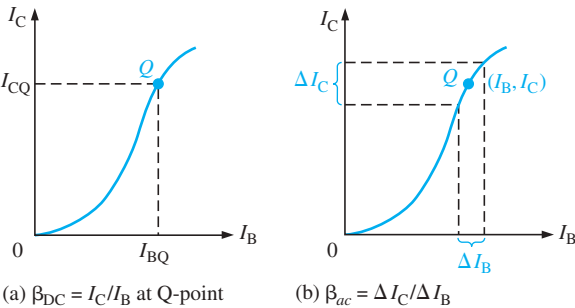

FIGURE 6–7
A linear amplifier provides amplification of a signal without any distortion so that the output signal is an exact amplified replica of the input signal. A voltage-divider biased transistor with a sinusoidal ac source capacitively coupled to the base through C_1 and a load capacitively coupled to the collector through C_2 is shown in Figure 6–2. The coupling capacitors block dc and thus prevent the internal source resistance, R_s , and the load resistance, R_L , from changing the dc bias voltages at the base and collector. The capacitors ideally appear as shorts to the signal voltage. The sinusoidal source voltage causes the base voltage to vary sinusoidally above and below its dc bias level, V_{BQ} . The resulting variation in base current produces a larger variation in collector current because of the current gain of the transistor.
◀ FIGURE 6–2
As the sinusoidal collector current increases, the collector voltage decreases. The collector current varies above and below its Q-point value, I_{CQ} , in phase with the base current. The sinusoidal collector-to-emitter voltage varies above and below its Q-point value, V_{CEQ} , 180° out of phase with the base voltage, as illustrated in Figure 6–2. A transistor always produces a **phase inversion** between the base voltage and the collector voltage.
A Graphical Picture The operation just described can be illustrated graphically on the ac load line, as shown in Figure 6–3. The ac signal varies along the ac load line, which is different from the dc load line because the capacitors are seen ideally as a short to the ac signal but an open to the dc bias. The sinusoidal voltage at the base produces a base current that varies above and below the Q-point on the ac load line, as shown by the arrows.
◀ FIGURE 6–3
Lines projected from the peaks of the base current, across to the I_C axis, and down to the V_{CE} axis, indicate the peak-to-peak variations of the collector current and collector-to-emitter voltage, as shown. The ac load line differs from the dc load line because the capacitors C_1 and C_2 effectively change the resistance seen by the ac signal. In the circuit in Figure 6–2, notice that the ac collector resistance is R_L in parallel with R_C , which is less than the dc collector resistance R_C alone. This difference between the dc and the ac load lines is covered further in Chapter 7 in relation to power amplifiers.
The ac load line operation of a certain amplifier extends $10 \mu\text{A}$ above and below the Q-point base current value of $50 \mu\text{A}$, as shown in Figure 6–4. Determine the resulting peak-to-peak values of collector current and collector-to-emitter voltage from the graph.
► FIGURE 6–4
Solution Projections on the graph of Figure 6–4 show the collector current varying from 6 mA to 4 mA for a peak-to-peak value of **2 mA** and the collector-to-emitter voltage varying from 1 V to 2 V for a peak-to-peak value of **1 V**.
Related Problem What are the Q-point values of I_C and V_{CE} in Figure 6–4?
An **r -parameter** model for a BJT is shown in Figure 6–5(a). For most general analysis work, it can be simplified as follows: The effect of the ac base resistance (r'_b) is usually
For a typical transistor, a graph of I_C versus I_B is nonlinear, as shown in Figure 6–7(a). If you pick a Q-point on the curve and cause the base current to vary an amount ΔI_B , then the collector current will vary an amount ΔI_C as shown in part (b). At different points on the nonlinear curve, the ratio $\Delta I_C/\Delta I_B$ will be different, and it may also differ from the I_C/I_B ratio at the Q-point. Since $\beta_{DC} = I_C/I_B$ and $\beta_{ac} = \Delta I_C/\Delta I_B$, the values of these two quantities can differ slightly.
The ac equivalent circuit for the common-emitter amplifier in Figure 6–8 is shown in Figure 6–10(a). Notice that both R_C and R_1 have one end connected to ac ground (red) because, in the actual circuit, they are connected to V_{CC} which is, in effect, ac ground.
► FIGURE 6–10
AC equivalent circuit for the amplifier in Figure 6–8.
In ac analysis, the ac ground and the actual ground are treated as the same point electrically. The amplifier in Figure 6–8 is called a common-emitter amplifier because the bypass capacitor C_2 keeps the emitter at ac ground. Ground is the common point in the circuit.
Signal (AC) Voltage at the Base An ac voltage source, V_s , is shown connected to the input in Figure 6–10(b). If the internal resistance of the ac source is 0Ω , then all of the source voltage appears at the base terminal. If, however, the ac source has a nonzero internal resistance, then three factors must be taken into account in determining the actual signal voltage at the base. These are the *source resistance* (R_s), the *bias resistance* ($R_1 \parallel R_2$), and the *ac input resistance* at the base of the transistor ($R_{in(base)}$). This is illustrated in Figure 6–11(a) and is simplified by combining R_1 , R_2 , and $R_{in(base)}$ in parallel to get the total **input resistance**, $R_{in(tot)}$, which is the resistance “seen” by an ac source connected to the input, as shown in Figure 6–11(b). A high value of input resistance is desirable so that the amplifier will not excessively load the signal source. This is opposite to the requirement for a stable